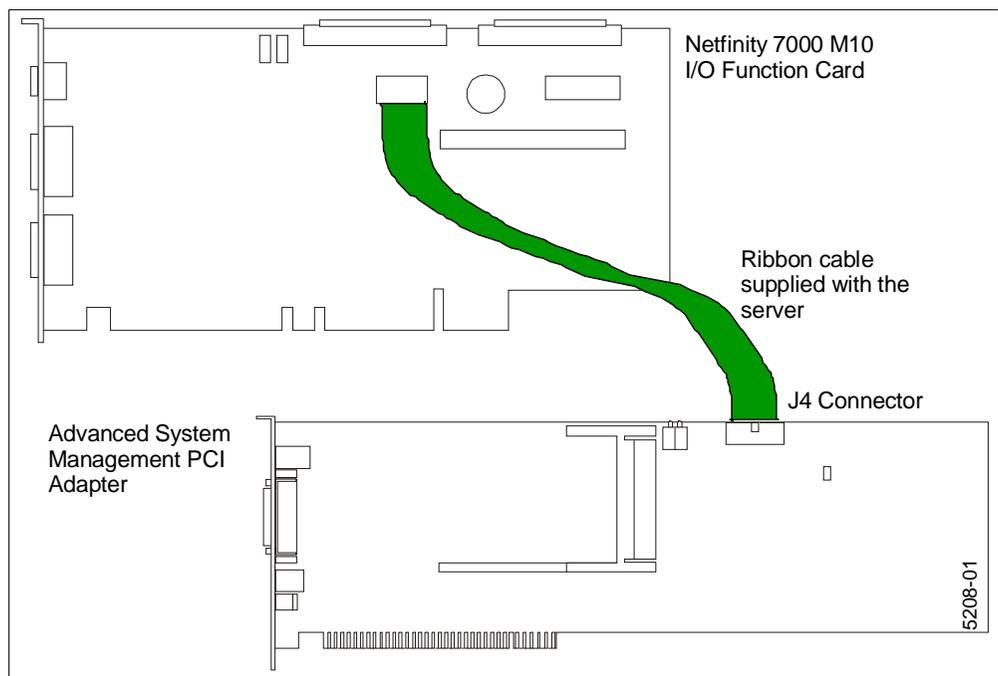

Figure 54. Connecting the I/O Function Card to the ASM PCI Adapter
The PCMCIA card is inserted into the Type II slot on the ASM PCI adapter (see Figure 54 on page 70). The cable is then connected to it and routed to the knockout at the rear of the server. You will need an additional cable to connect the DB9 connector to your LAN. See the *Advanced System Management PCI Adapter Installation Instructions* for more details.
2. Connect the supplied ribbon cable from the 12-pin connector J4 on the ASM PCI adapter to the Netfinity 7000 M10 I/O Function Card's ASM PCI adapter connector (see Figure 54). The ribbon cable used is the one that was connected to the adapter when it was originally installed in the server.